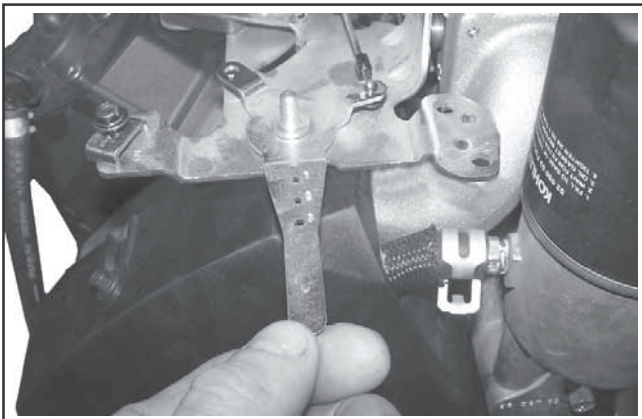
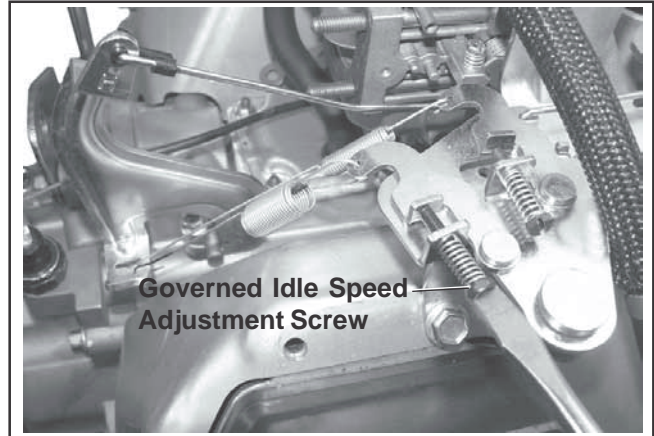

Figure 5-9. Throttle Lever in Idle Position.
Figure 5-10. Setting Governed Idle Speed RPM (Air Cleaner Removed For Clarity).
4. Release the governor lever and check that the throttle lever is in the idle (centered) position. See Figure 5-9. Turn the governed idle (outer) adjustment screw to obtain the equipment manufacturer's recommended idle speed (**1500-1800 RPM**). The governed idle speed (RPM) is typically 300 RPM (approximate) higher than the low idle speed. See Figure 5-10.